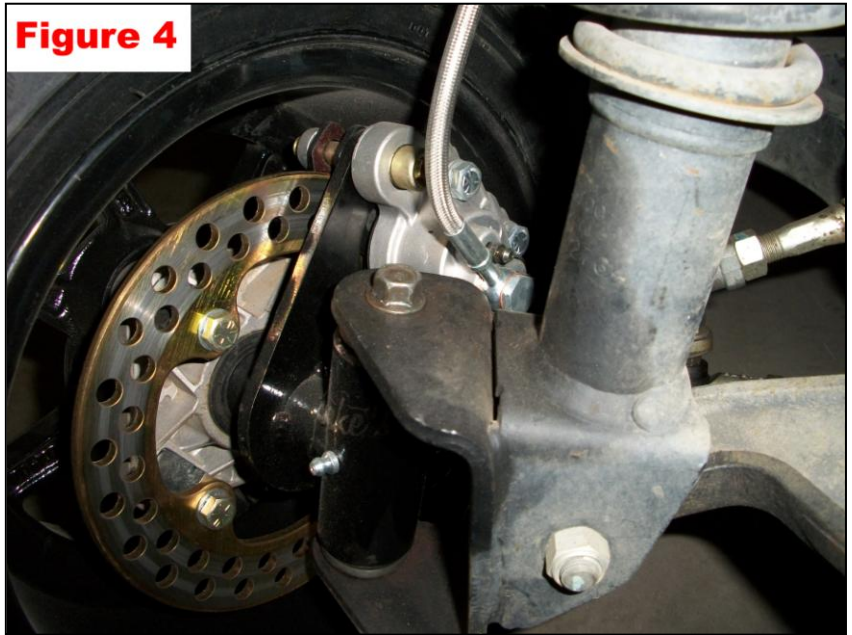

Figure 4
11. Route the brake line assembly through the center of the frame and to each side of the cart. There is a driver side and passenger side caliper. The lines must run up and in from the caliper and towards the inside of the carts as shown in FIGURE 4. Mount the calipers to the caliper mounts as shown in FIGURE 4. **NOTE: If you have a**
13. Slide the other clamp (ITEM H) on the end of the reservoir hose (ITEM F). Pinch or plug the end of the hose before filling the reservoir. Using regular DOT 3 brake fluid, fill the reservoir. Do not put the lid on the reservoir. Turn the yellow cap on the master cylinder slightly upward and then remove the yellow cap. Slowly release the pinched hose and allow the air to be flushed out of the hose. Once the air is released and the brake fluid is flowing clamp the hose to the master cylinder as shown in FIGURE 4. Refill the reservoir.